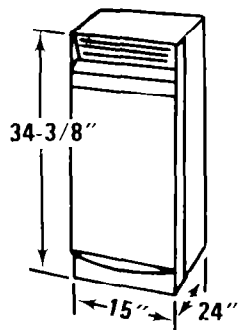

FIGURE 3
2. The compactor's overall dimensions are: Height 34-3/8" (87.3 cm), Depth 24" (61 cm), Width 15" (38.1 cm). See Figure 3.